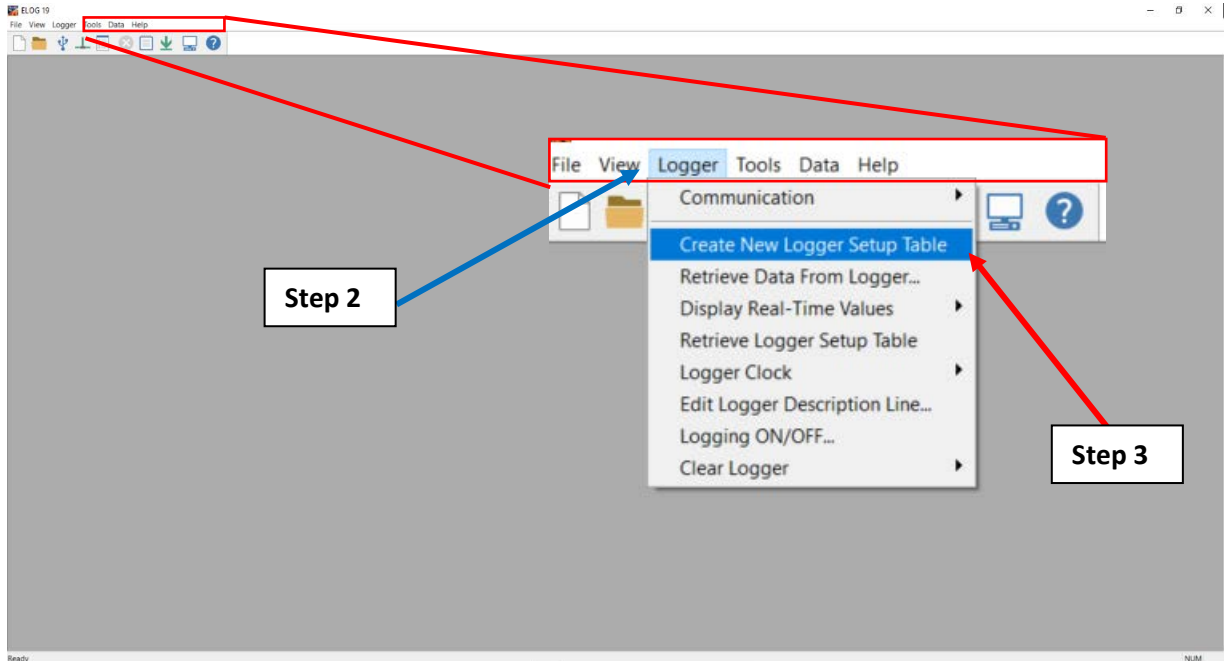

Figure A.3.2: Creation of New Logger Setup Table.
2. At the top of the window select the “Logger” tab (Figure A.3.2).
3. Select “Create New Logger Setup Table.” (Figure A.3.2).